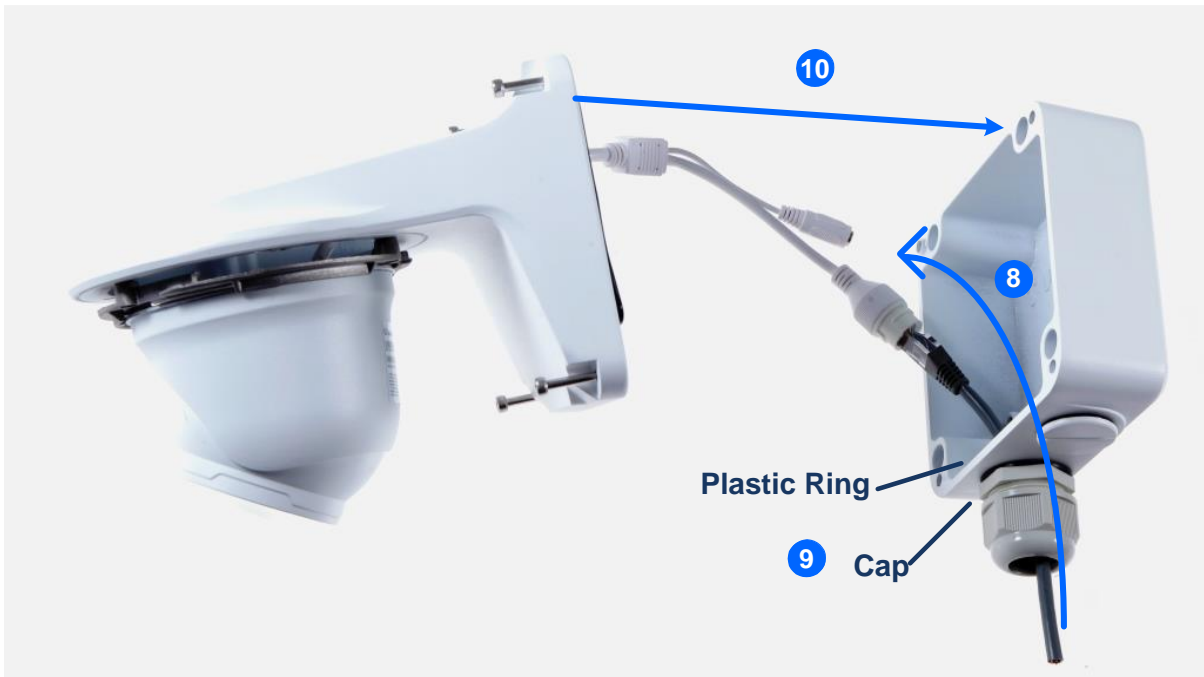

Figure 1-26
8. Thread the Ethernet cable through the PG21 conduit connector and the power box as shown in No. 8, *Figure 1-26*. Then connect the cable to the camera. To waterproof the cable, see *1.8 Waterproofing the Cable*.
9. Rotate the plastic ring to secure the conduit connector to the power box. Screw in the cap as shown in No. 9, *Figure 1-26*.
10. Screw the wall mount bracket to the power box as shown in No. 10, *Figure 1-26*.